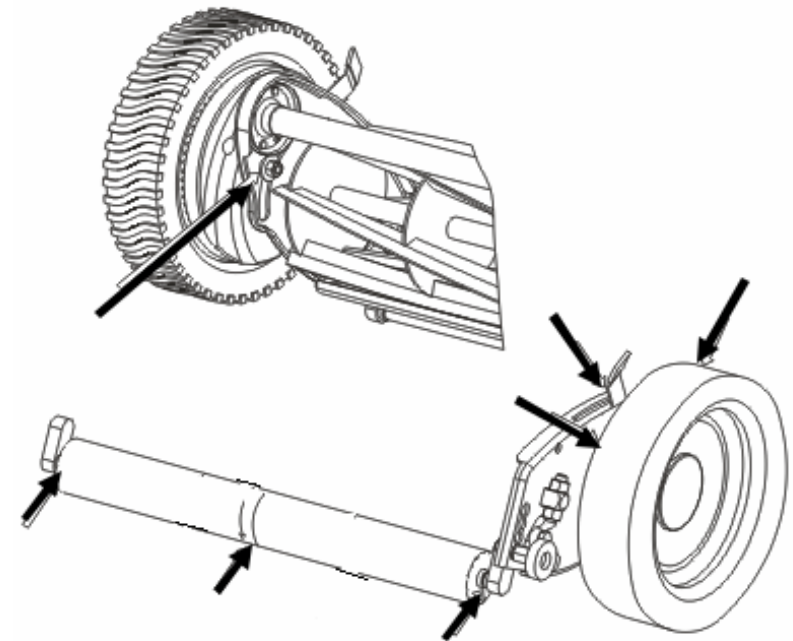

FIGURE 11
- Using engine oil, lightly lubricate points indicated in (Figure 11) on roller and between the end plates and the wheel dust covers. Periodic lubrication for these points will ensure smooth mechanical operation. (Figure 11).